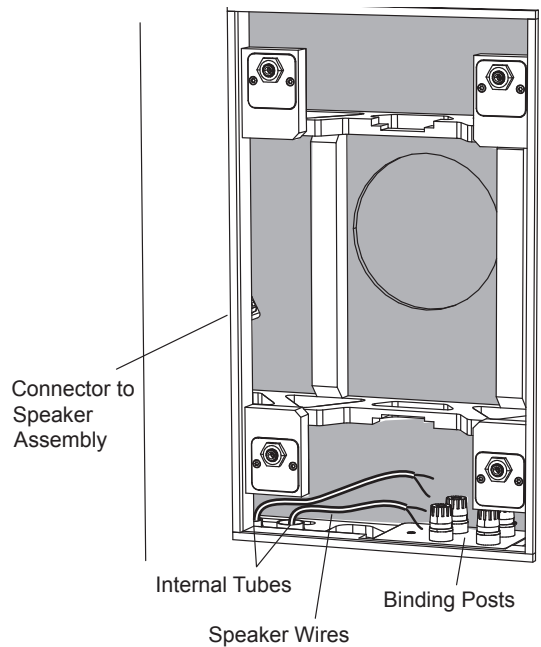

Fig. 5. Speaker Wire Installation to Back Can Terminals
4. The positive wire from your amplifier should go to one of the red (positive) terminals inside the back can (Fig.5). The negative wire from your amplifier should connect to one of the black (negative) terminals. You can use the other red and black terminals to run speaker wiring out of the other cable gland and out to another speaker.